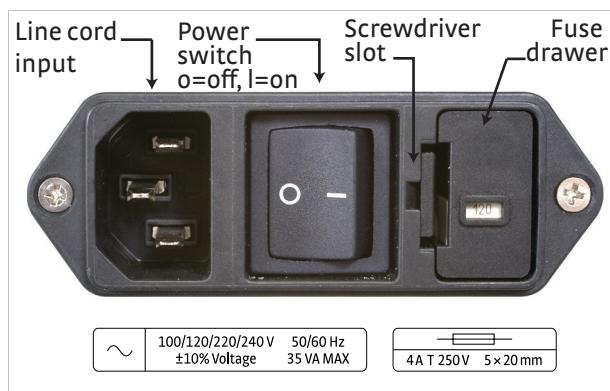

FIGURE 8-1 *Line input assembly*
1. Identify the line input assembly on the instrument rear panel. See FIGURE 8-1.
2. Turn the line power switch OFF (O).
10. Turn the line power switch On (I) Refer to FIGURE 8-1.